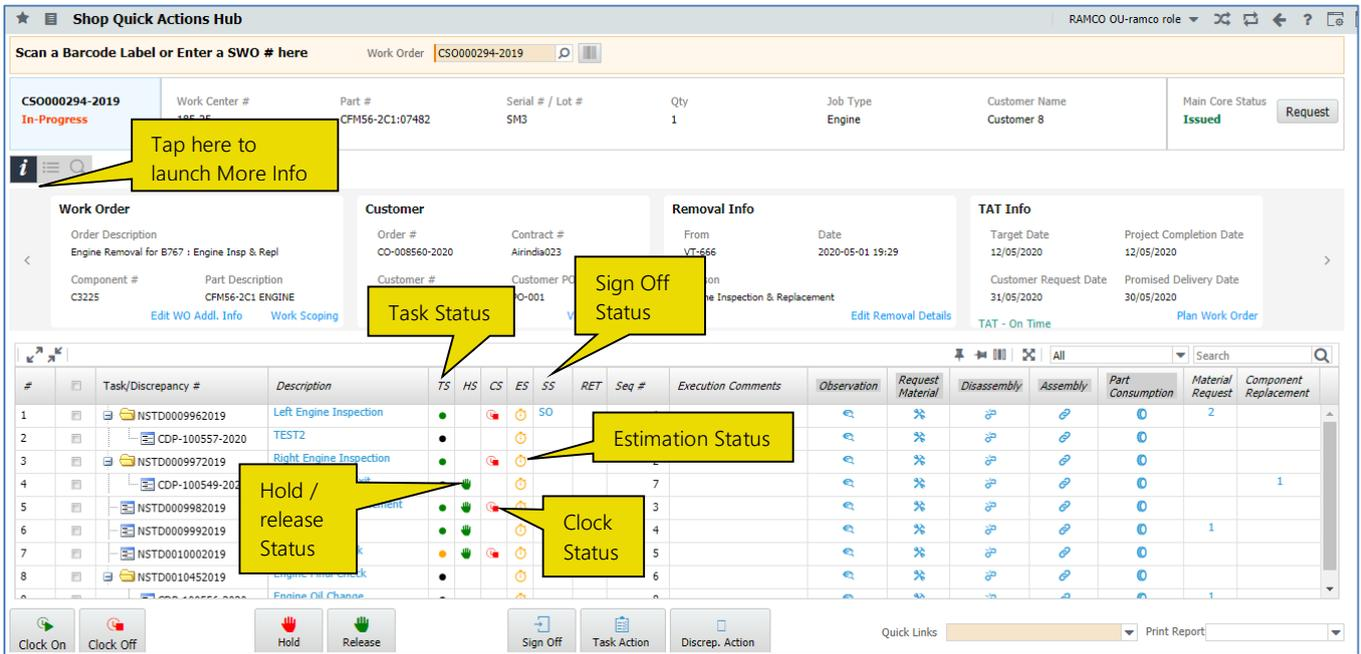

Figure 2.2 The More Info tab
1. Click the  icon to open the **More Info** tab to view comprehensive information on the work order. The More Info appears. *See Figure 2.2.*